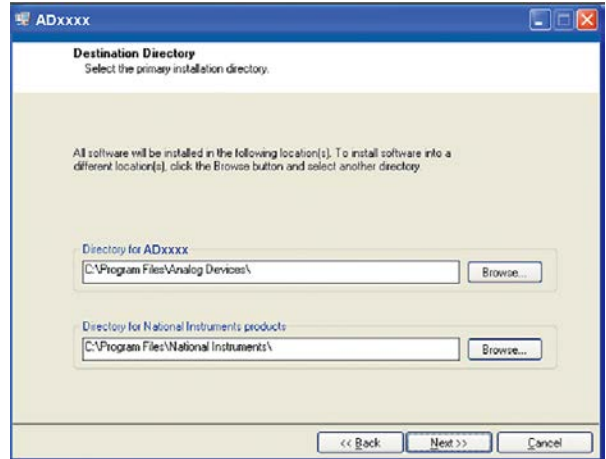

Figure 4. AD7292 Evaluation Software Installation: Selecting the Location for Software Installation
4. Select the location to install the software, and then click **Next**. (Figure 4 shows the default locations, which are displayed when the window opens, but you can select another location by clicking **Browse**.)